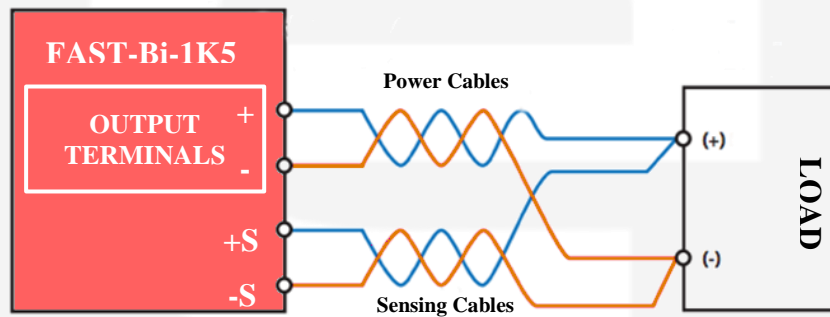

Figure 17: Example of Remote Sensing
3. Using a twisted pair or shielded cable (suggested wire size is 0.3 or 0.5 mm²) connect the +S terminal to the positive output terminal and the –S to the negative output terminal as illustrated in **Figure 17**.
In order to perform remote sensing at different points – e.g. the load terminals – it would be necessary to connect Pin #1 and Pin #4 as in **Figure 17**: